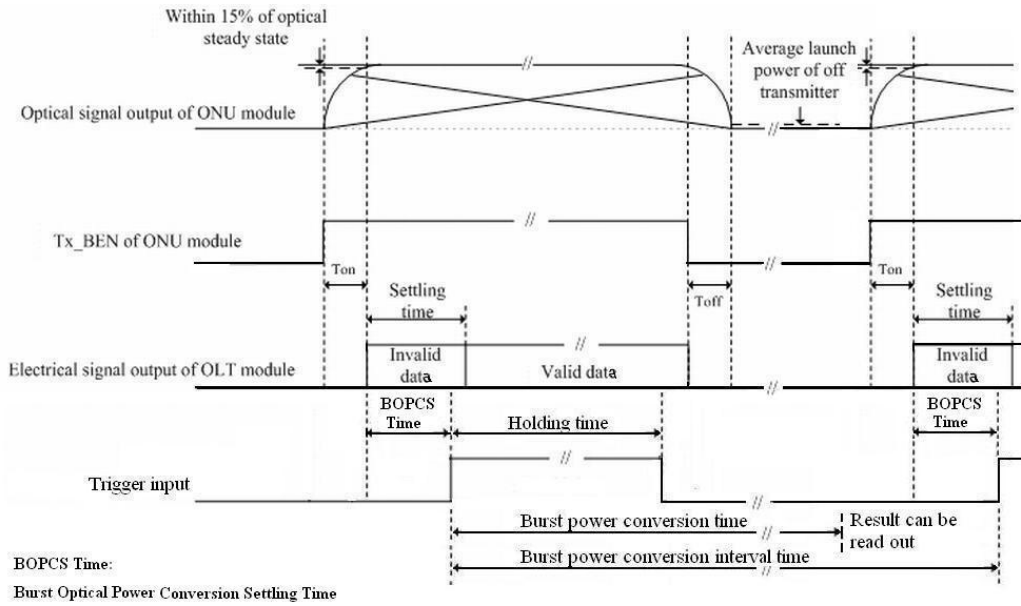

Figure 2, Time parameter definition in EPON system
- 6.Define Tsettling as the time from the Tx_BEN assertion, minus the Ton time to the time the electrical signal the Receiver output reaches within 15% of its steady state conditions. It is shown in the Figure 2.
- 9.See Figure 2.